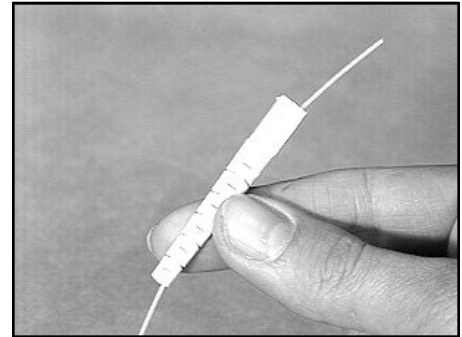

Fig. H1
1. SLIP THE STRAIN RELIEF BOOT ONTO THE BUFFERED FIBER, SMALL END FIRST (Fig. H1)